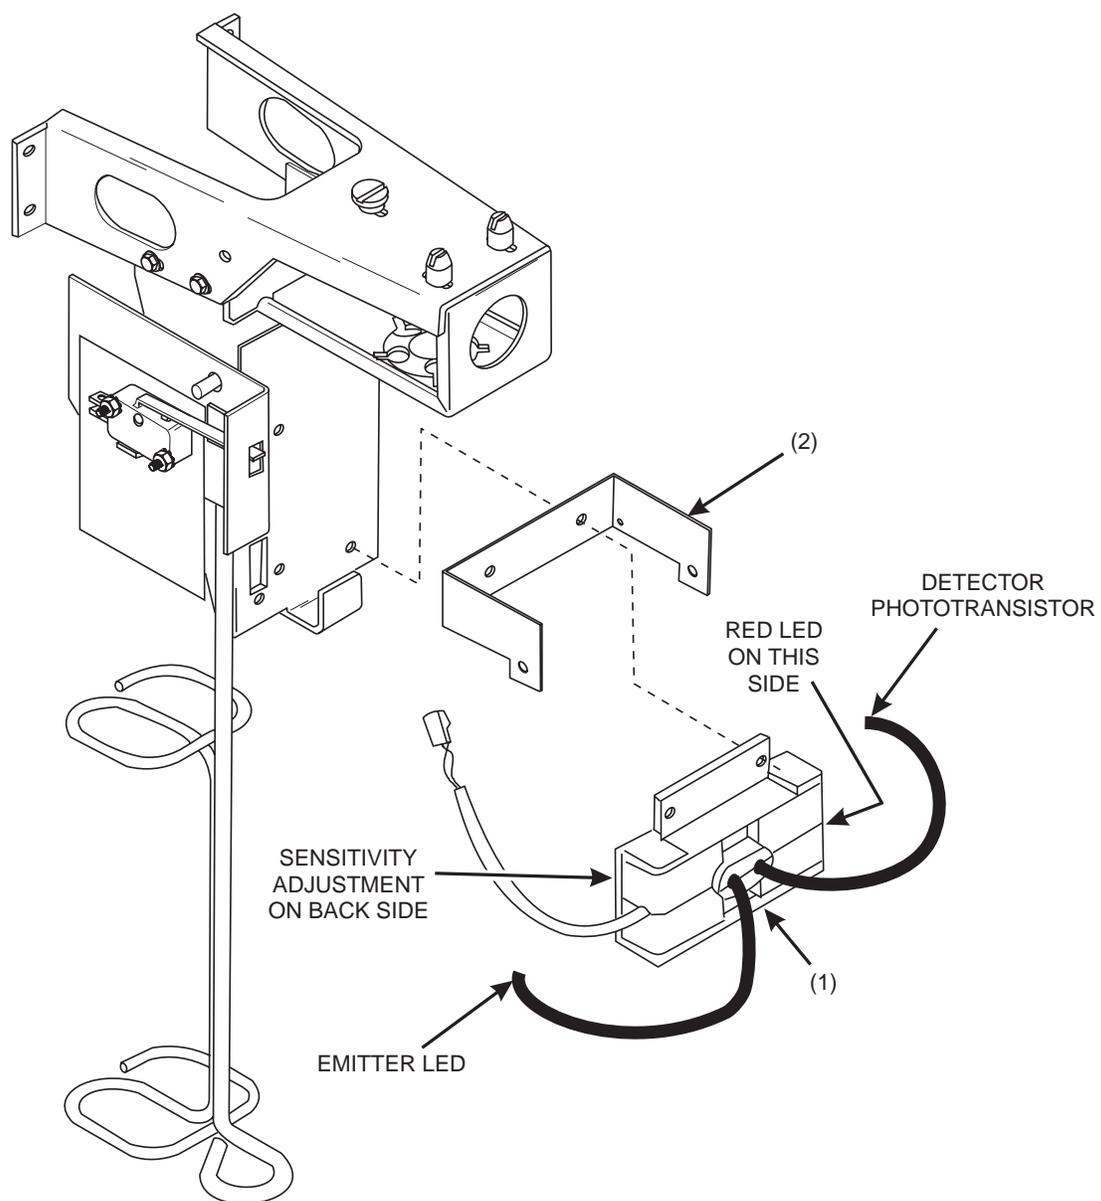

Figure 3
3. Install the mug sensor and bracket assembly, transmissive (1), and the LED bracket (2) onto the cup station support assembly as shown (Figure 3). Use the mounting screws left over from step 2.
- b. With no mug or other object blocking the light beam, the red LED on the right side of the mug sensor and bracket assembly (Figure 3) should not be lit. If the LED is lit, adjust the sensitivity control (through the hole at the back of the mug sensor and bracket assembly) until the LED is off.
- d. When all tests and adjustments are complete, place the caplug (6) into the hole in the rear of the mug sensor and bracket assembly. This will help prevent moisture and liquids from entering the assembly housing.